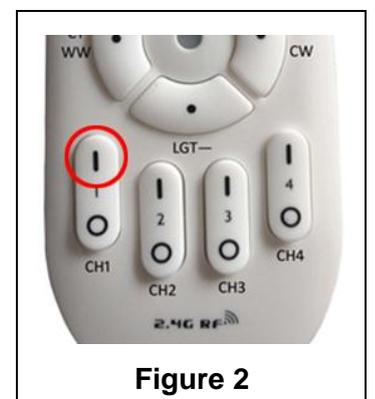

Figure 2
- Switch the power back on. Within 3 seconds turn on Channel 1 (Figure 2).